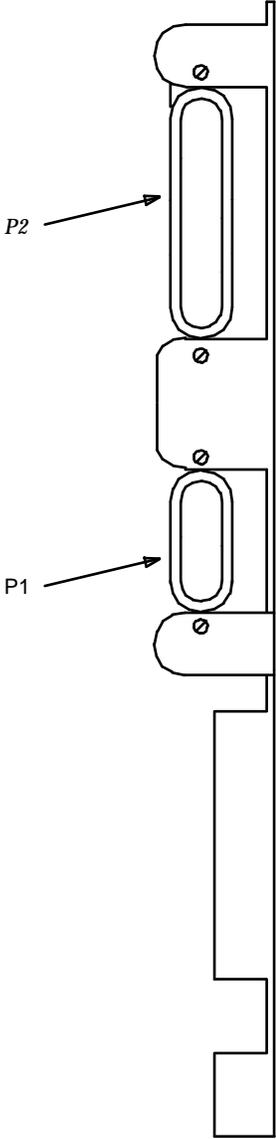

FIGURE 4-7. P1 and P2 Cable Locations
5. Connect the “P2” and “P1” (large and small) connectors to the “A” carrier. To get enough slack in the cables, cut the tie wrap holding the intercabinet cable to the upright in the area of the carrier being installed. Snap the connector lock into place to ensure the connection is properly made (see Figure 4-7).